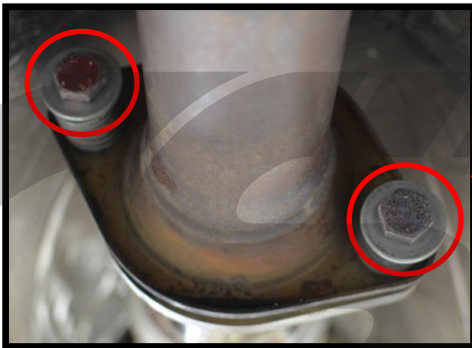

Figure 6d
- d) Remove the two 17 mm (14mm for OEM) bolts between the downpipe and the catback exhaust (CBE), **circled in red in Figure 6d.** (If applicable) Remove the 17mm (14mm for OEM) bolts between the race pipe and upper downpipe.